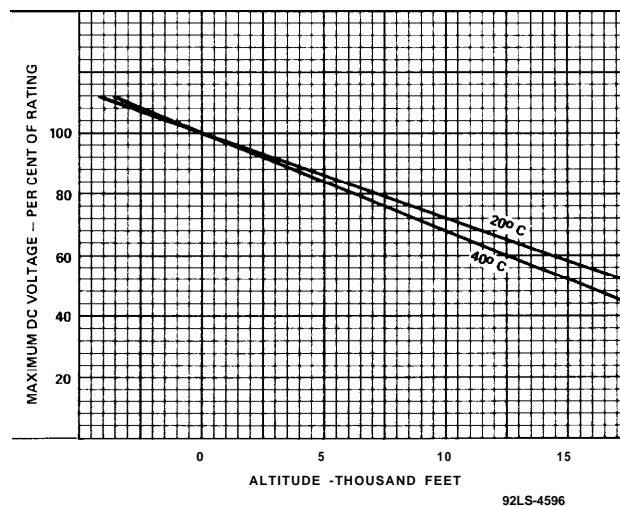

Figure 1 - Maximum DC Voltage with Respect to Altitude
9. The maximum voltage ratings must be modified for operation at altitudes higher than sea level and for temperatures in excess of 20°C in accordance with the curves of **Figure 1**. For altitude derating of the plate voltage, use the voltage difference between plate and grid **No.2**.